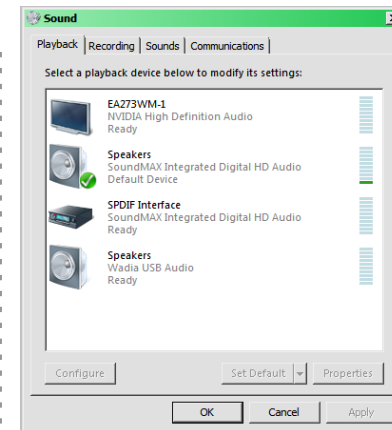

Figure 16
3. Select the “Speakers Wadia USB Audio” and then click on the SET DEFAULT button. Refer to figures 16 and 17.